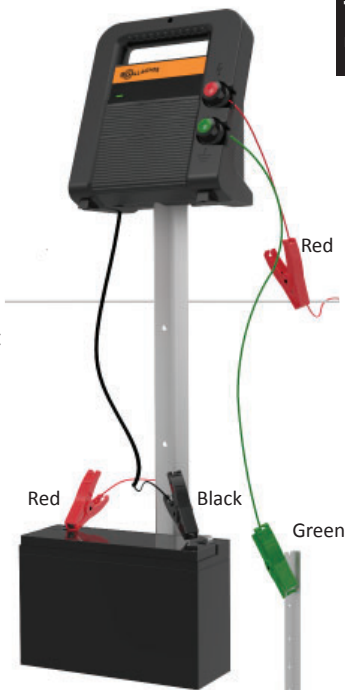

Figure 7
- Connect energizer earth (green) terminal to the earth stake installed at least 3 ft (1 m) into the ground. (Figure 7)